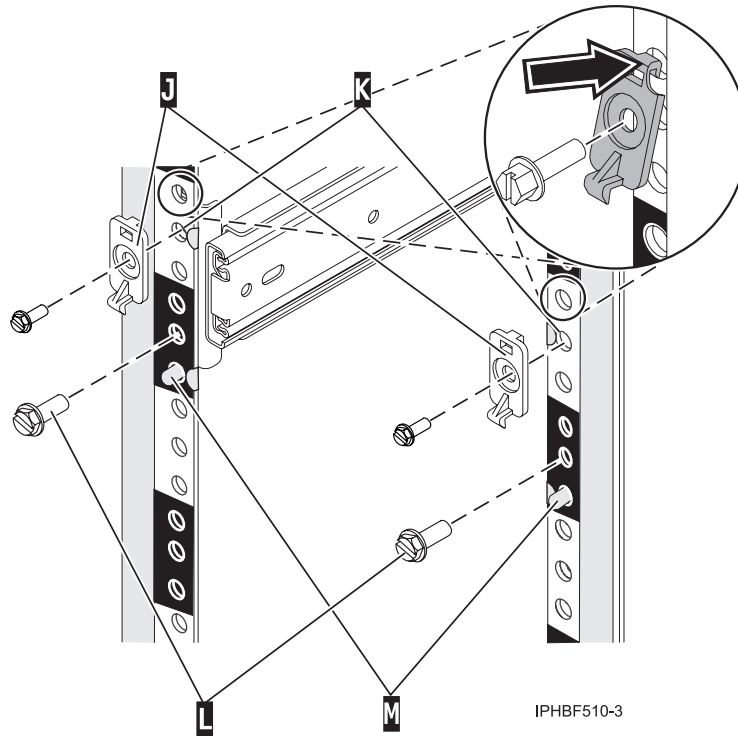

Figure 116. Securing the system rails to the front of the rack.
7. From the front of the rack, finger-tighten one of the system-retaining screws **L** into the first hole position above the front-alignment pin **M** as shown in Figure 116 on page 116.